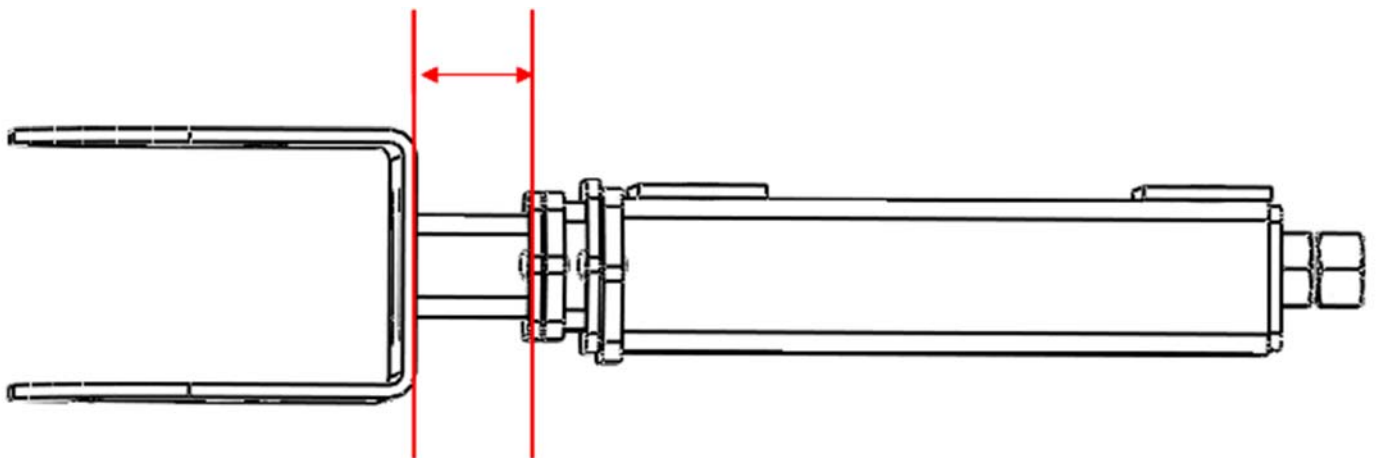

Figure 37: Dimension required to tension belt
3. When the idler sheave firmly contacts the belt, measure distance between bearing bracket and face of middle tube. Refer to Fig 37 below.